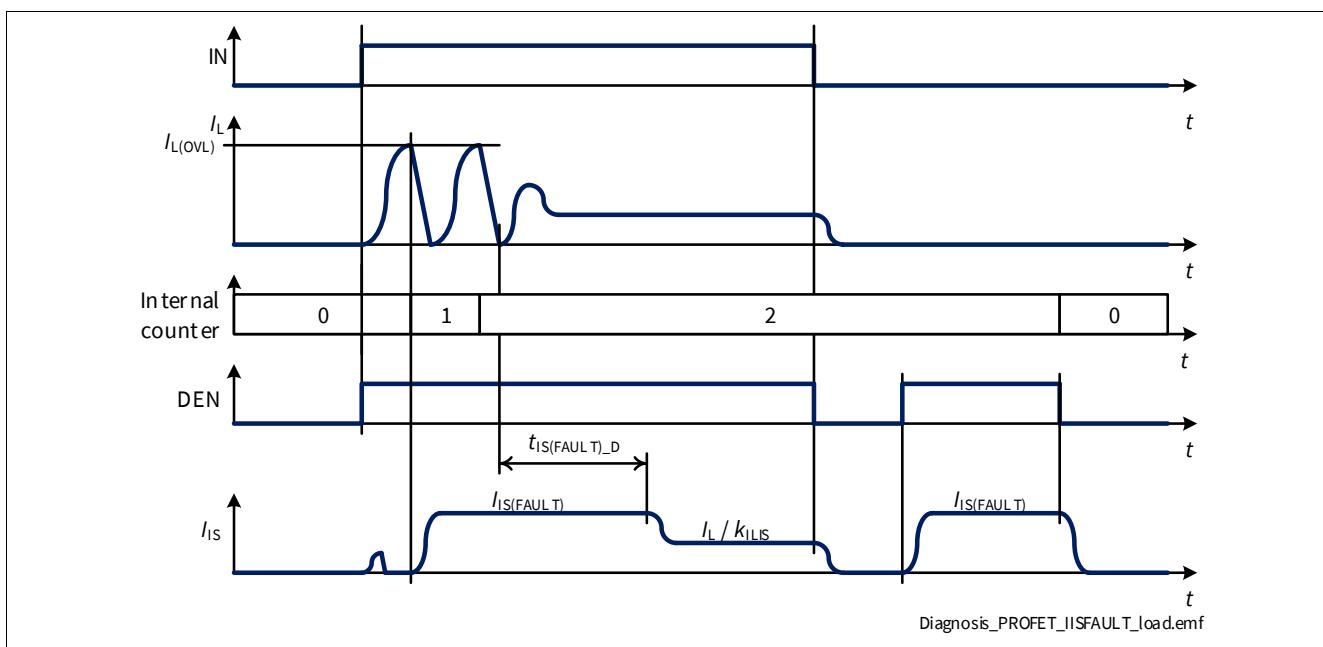

Figure 35 $I_{IS(FAULT)}$ at Load Switching
- If the channel is ON and the number of retries is lower than “ $n_{RETRY(CR)} + n_{RETRY(CYC)} * n_{RETRY(NT)}$ ”, the current $I_{IS(FAULT)}$ is provided for a time $t_{IS(FAULT)_D}$ after the channel is allowed to restart, after which $I_{IS} = I_L / k_{ILS}$ (as shown in Figure 35). During a retry cycle (while timer t_{RETRY} is running) the current $I_{IS(FAULT)}$ is provided each time the channel diagnosis is checked